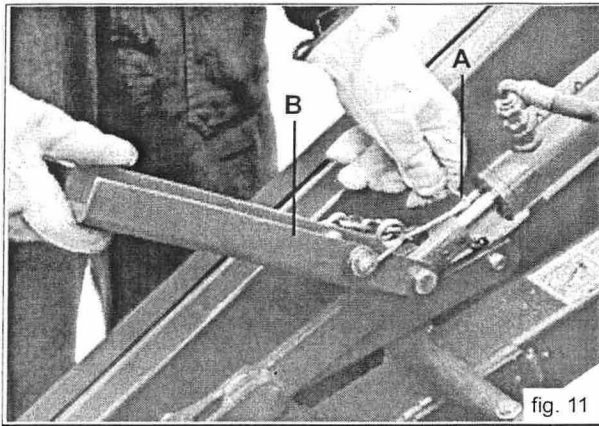
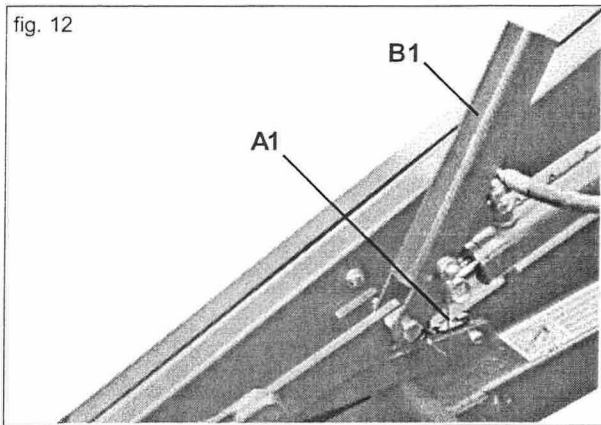

fig. 11
fig. 12
To operate the device, put the spring (A Fig. 11) in position (A1 Fig. 12) (under the cylinder rod), so that the cylinder bracket (B) is released forwards towards position (B1 Fig. 12).